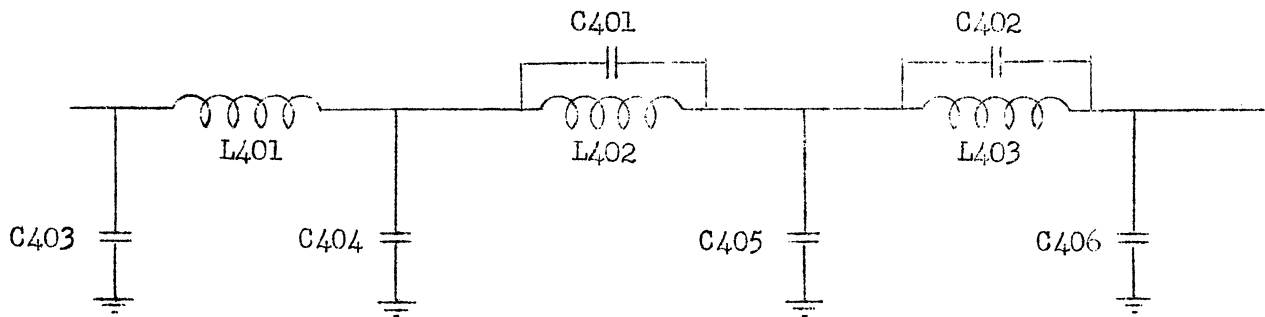
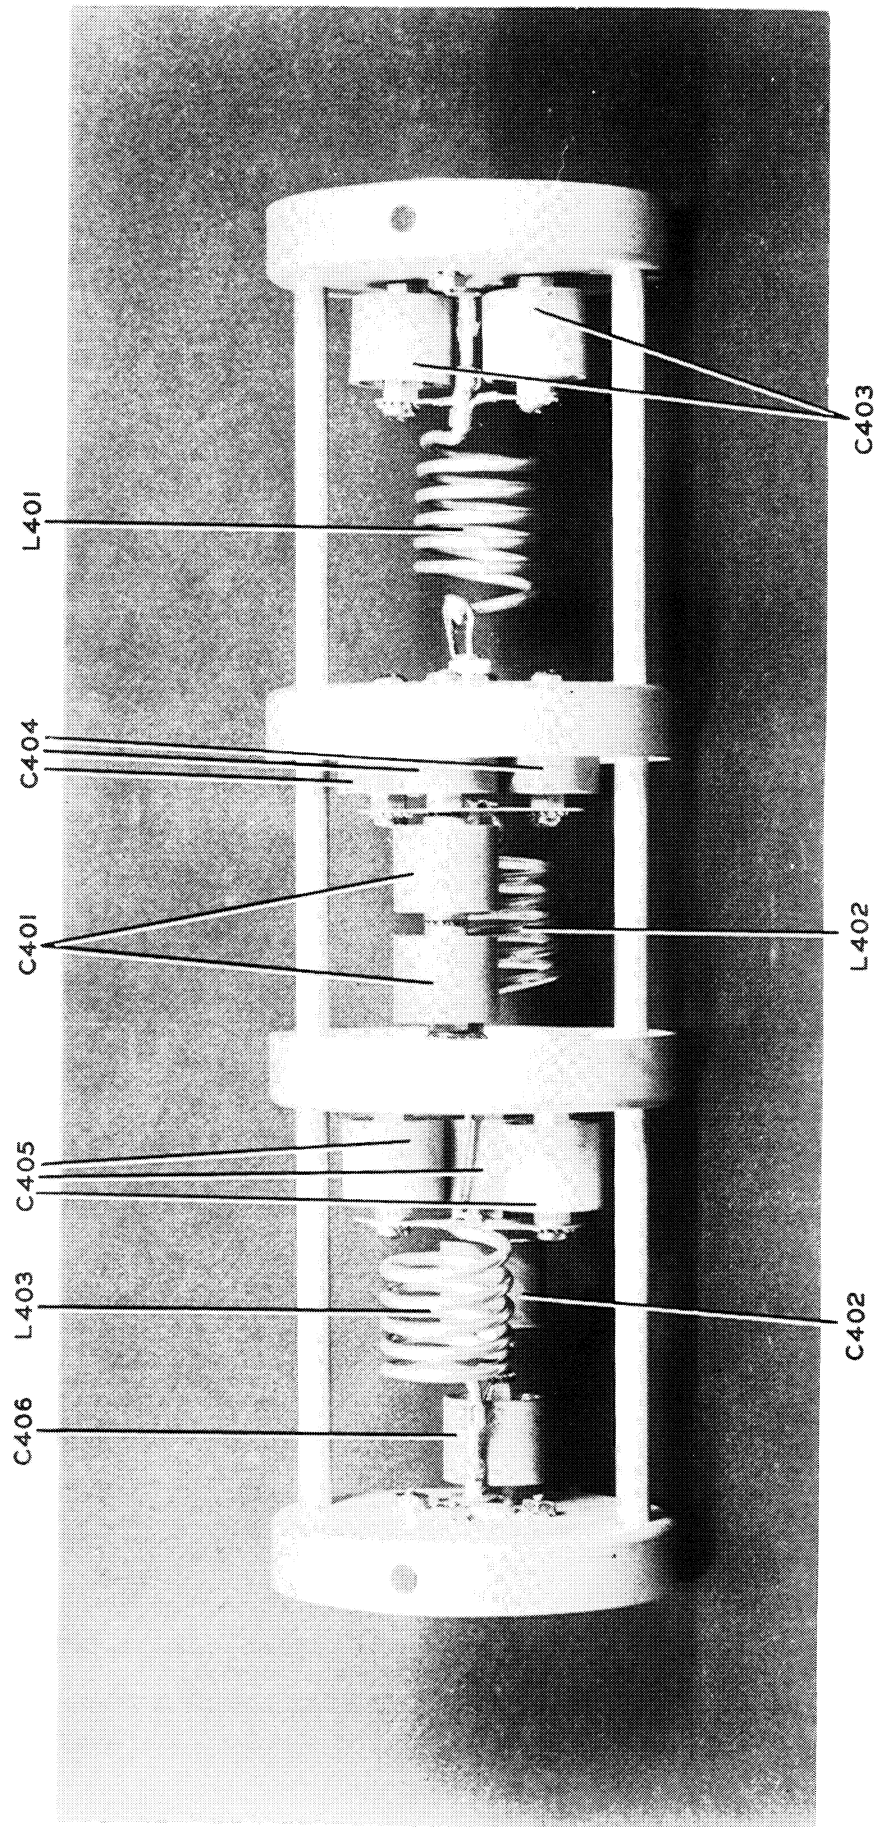

Figure 2 35C-1 Filter Schematic
FIGURE 3. 35C-1 LOW PASS FILTER — INSIDE
- Figure 2 35C-1 Low Pass Filter Schematic
- Figure 3 35C-1 Low Pass Filter Photograph - Open
The Collins Model 35C-1 Low Pass Filter is designed for television interference elimination where the interference is of harmonic origin. Refer to figure 2 and figure 3.